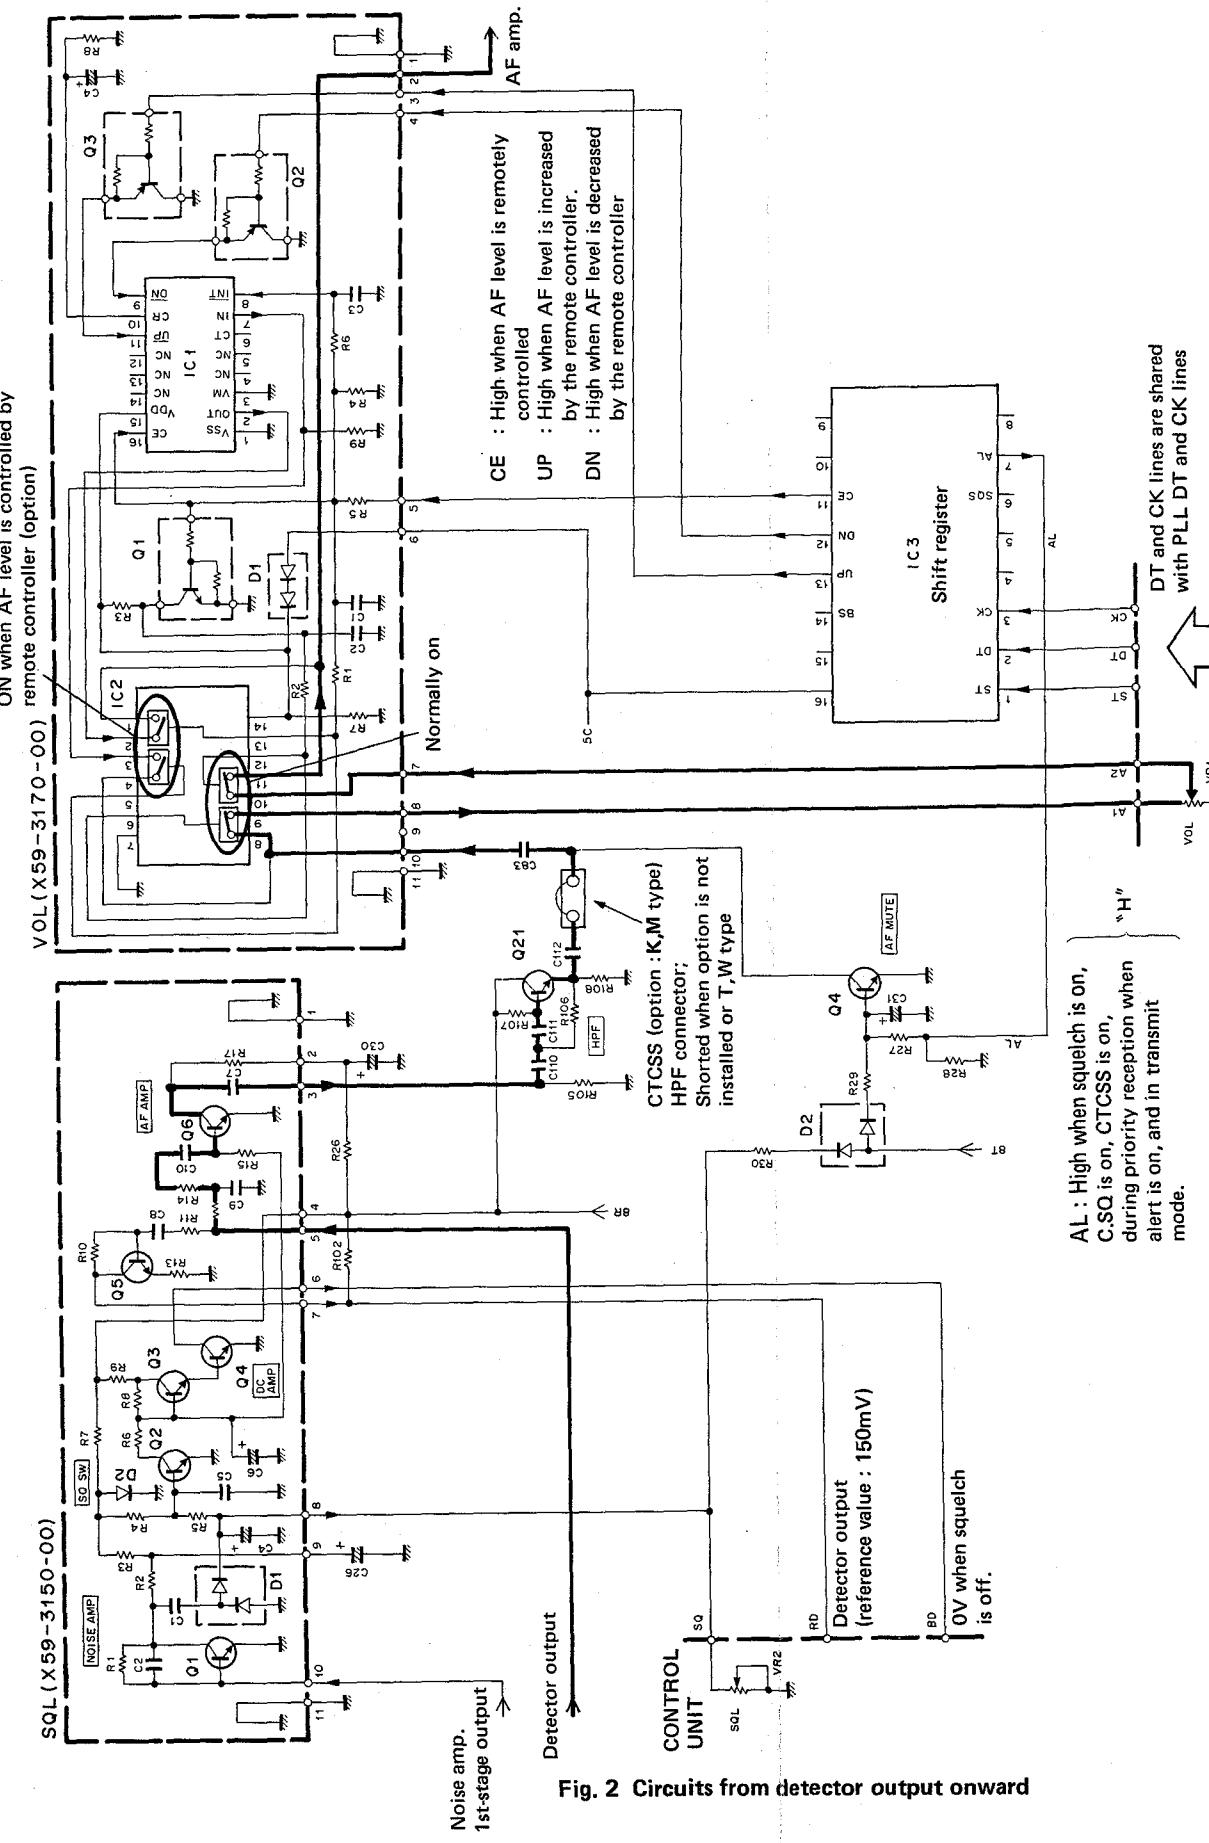

Fig. 2 Circuits from detector output onward
The first IF signal is amplified by Q3 : 2SC2714(Y) and fed to a special narrow-FM IC (TA7761F). Here the signal is mixed with the 10.24MHz (**K,M**), 10.245MHz (**T,W**) frequency from the second local oscillator to produce the 455kHz second IF signal. This signal is sharpened by passing it through a six-element ceramic filter (CFW455F). The signal is then amplified by a five-stage limiting amplifier contained in IC1. This is followed by quadrature detection which is also performed by IC1. Undesirable high-frequency components are removed from the detected signal by an active low-pass filter. The signal then passes through the audio volume control, then is amplified by the audio power amplifier (IC4), and applied to the speaker. The circuit configuration from detection onward is shown in Fig. 2.